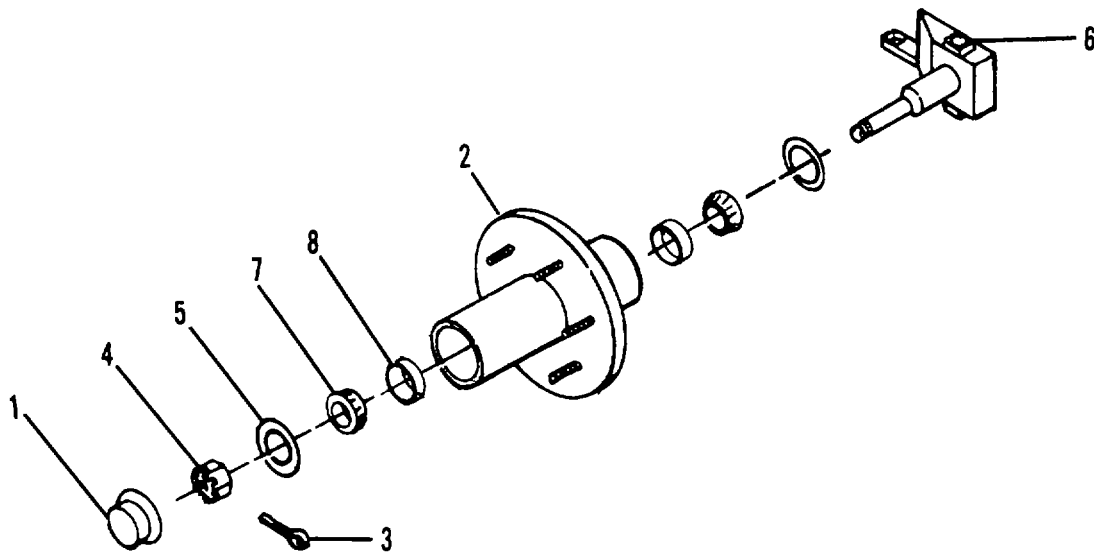

Figure 4-25. Steering Wheel Hubs and Bearings (Sheet 1 of 2).
- (1) Remove dust cap (1, Figure 4-25) from hub (2).
- (2) Remove cotter pin (3) from spindle nut (4).
- (3) Remove spindle nut (4) and washer (5) from spindle (6).
- (4) Remove hub (2).
- (5) Remove bearing (7) and outer race (8) from hub (2) with a soft drift and hammer.
- (6) Remove grease seal (9) from hub (2) and discard.
- (7) Remove bearing (10) and inner race (11) from hub (2) with soft drift and hammer.